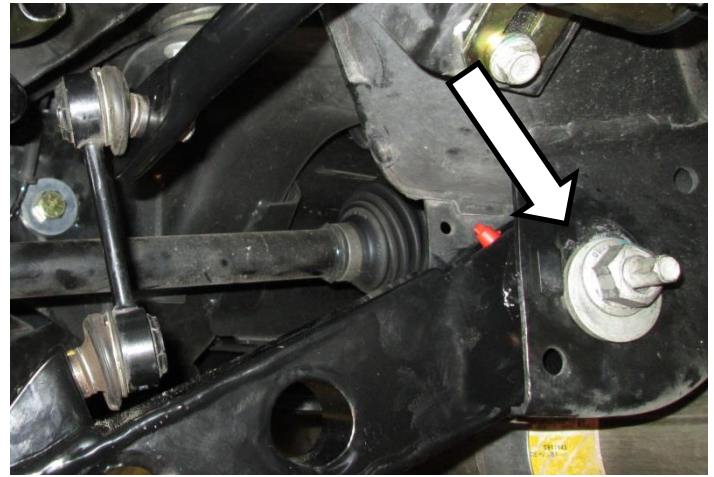

Figure 1
- Place an alignment mark on the inner control arm pivot eccentric washer and differential cradle. Remove the inner pivot bolt, noting the direction it is installed. Remove the lower control arm from the car. **See Figure 1**